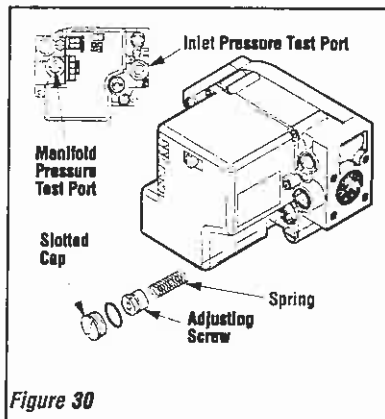

Figure 30
Step 8. Honeywell Electronic Valves - See *Figure 30* and the instructions provided with the kit. Remove the slotted cap screw, o-ring, pressure-regulating adjusting screw and spring. Retain all parts for possible later use. Install new components from the kit. Black cap and red spring for propane gas units. Silver cap and stainless steel spring for natural gas units. Before installing the cap, attach manometer to the manifold side pressure test fitting and adjust screw until pressure reads 3.5 inches water column (0.87 kPa) for natural gas, and 10.0 inches water column (2.49 kPa) for propane gas.